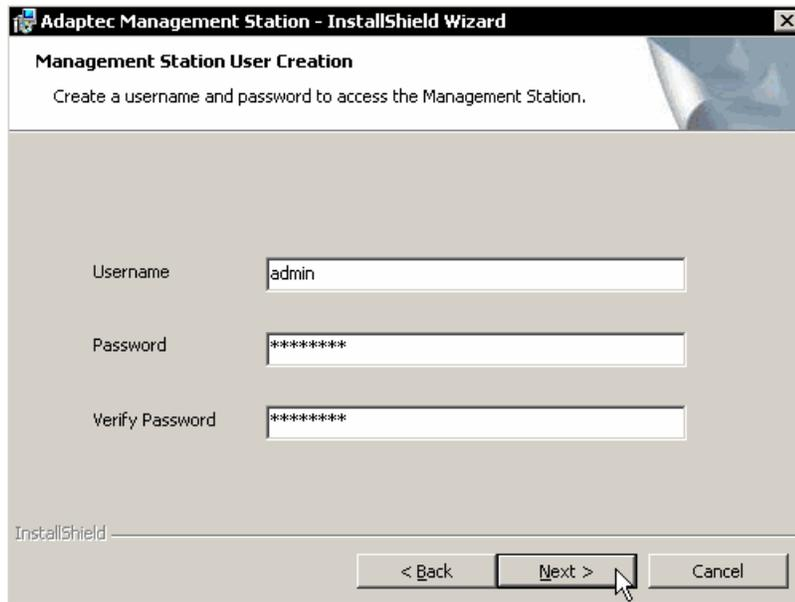

Figure 11 Management Station Username and Password
4. During the install process define a user name and password for the server, as shown in Figure 11 on page 12.